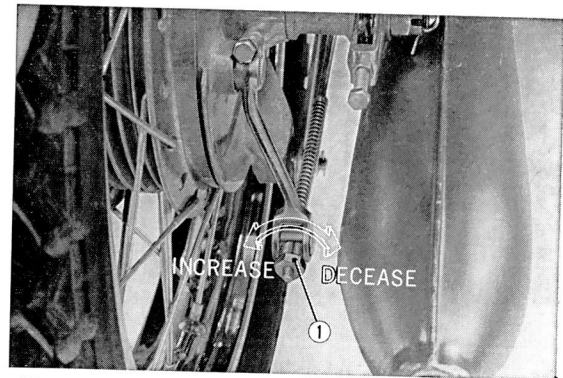

Fig. 6.40 Rear brake adjustment
b. The adjustment is made with the brake arm on the rear brake panel. Turning the adjusting nut ① clockwise will decrease the free play of the brake pedal, and turning counter clockwise will increase the free play. (Fig. 6.40)